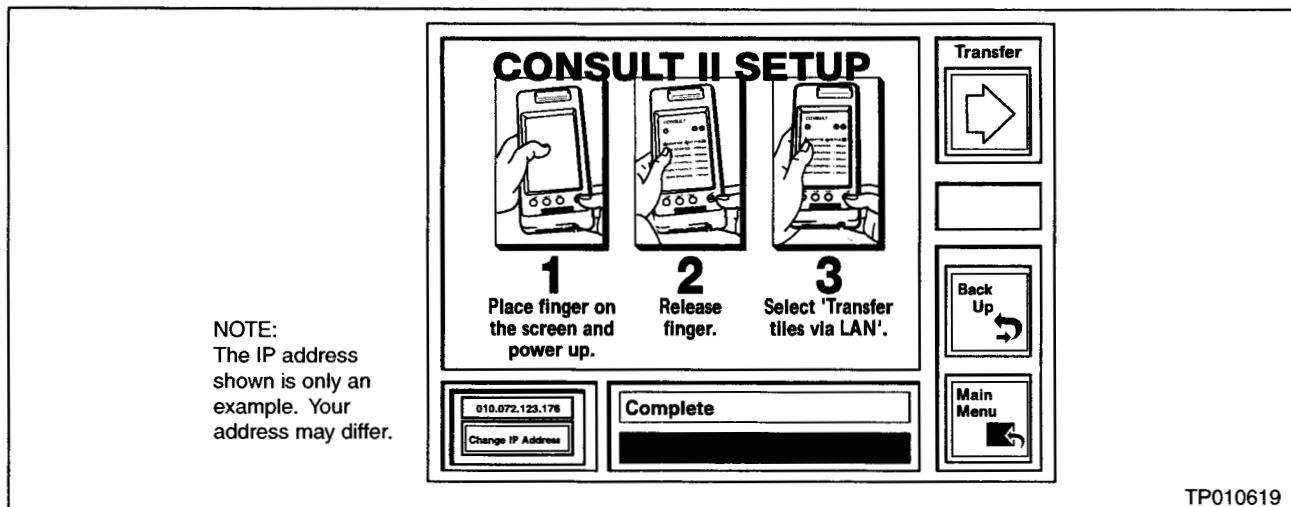

Figure 3
10. Data transfer will take about 1 minute and the progress of the transfer is displayed on the ASIST PC screen (see Figure 3). Wait until the data transfer is complete (see **CAUTION**, below).
CAUTION: DO NOT DISCONNECT THE ETHERNET CABLE UNTIL "COMPLETE" IS DISPLAYED AS SHOWN IN FIGURE 3. If the cable is disconnected before **"Complete"** is displayed you **MUST** restart the download procedure. Otherwise TCM damage can occur.